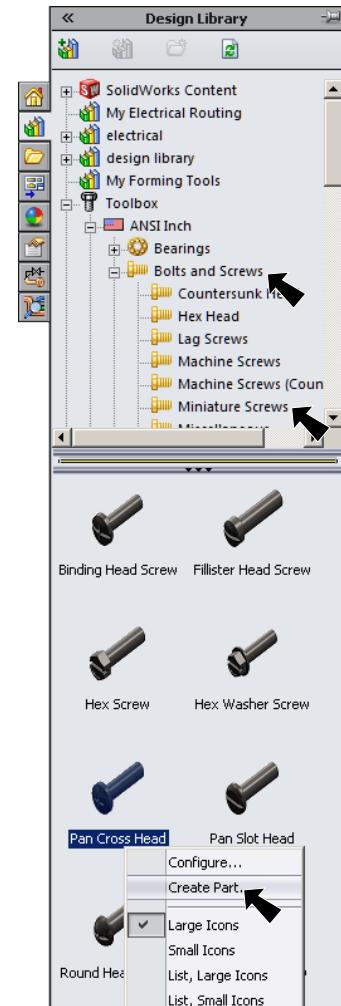

Fig. 9
Step 1. Click the **Design Library** tab  in the Task Pane, **Fig. 9**.
Step 3. In the lower pane, **right click Pan Cross Head** and click **Create Part**, **Fig. 9**.